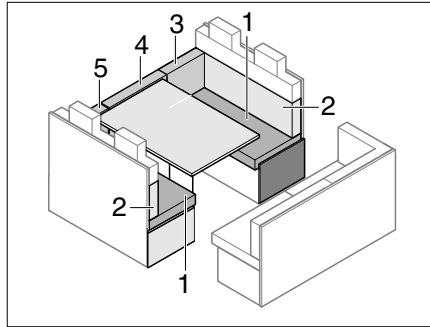

Fig. 197 Prior to conversion
- Remove the back cushions (Fig. 197,3,4 and 5) and lay them aside.